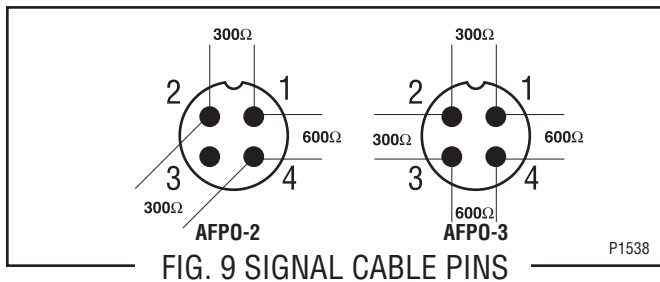

FIG. 9 SIGNAL CABLE PINS
4. Check resistance across pins as shown in Fig. 9.
5. With the probe box switch in "LOW" position check the resistance across the signal cable pins, see Fig. 9.